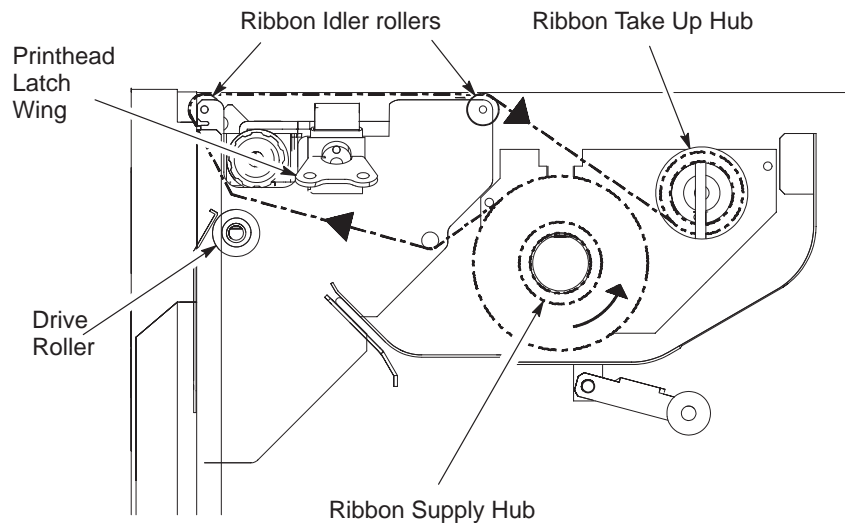

Figure 2–13. Routing the Ribbon
2. Raise the printhead latch wing, and rotate it counterclockwise one half-turn to unlock the printhead. Swing the printhead to the raised position. (See Figure 2–13.)